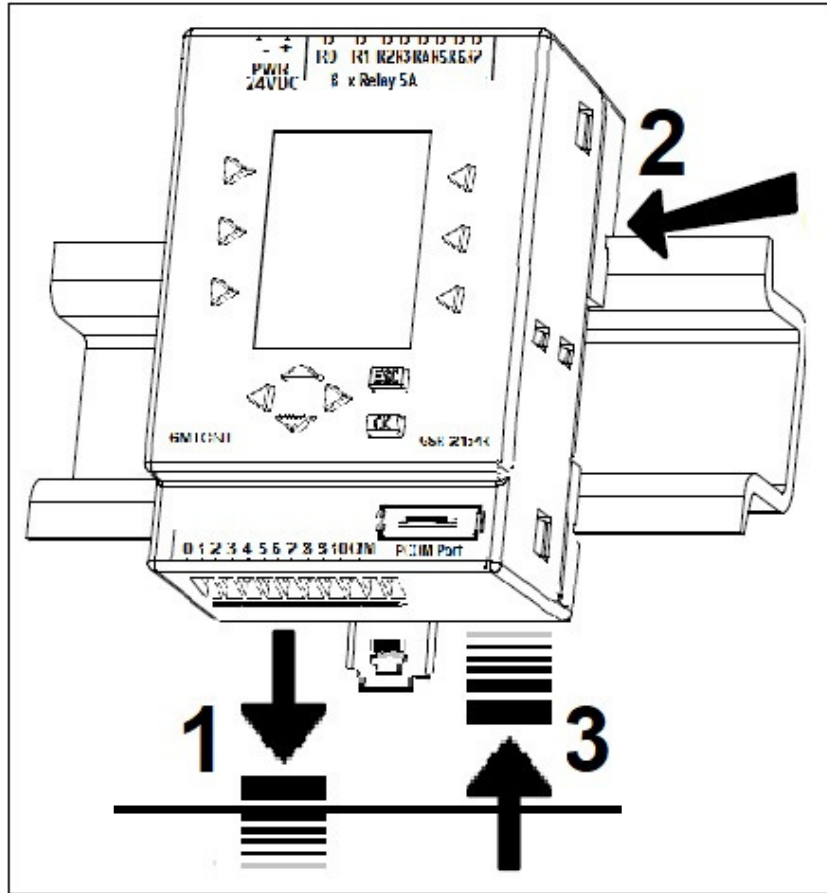

Figure 3: GSR-2108T DIN Rail Mounting
- To mount the device on a DIN rail, as illustrated in Figure 3;